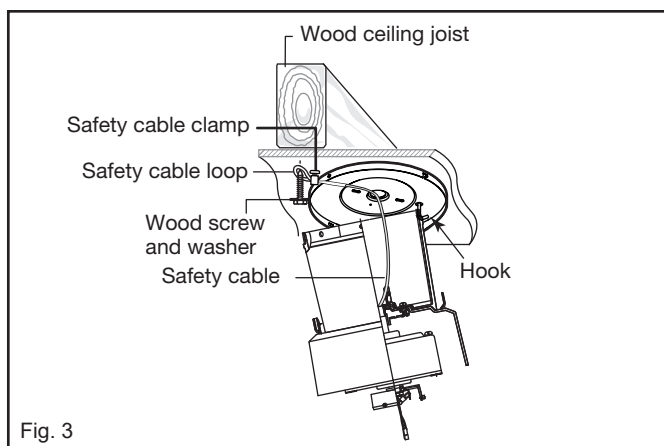

Fig. 3
Step 5. Carefully lift fan motor assembly (without the blades) into position by hanging the motor assembly onto the hook from the ceiling mounting bracket allowing it to hang freely. (Fig.3)